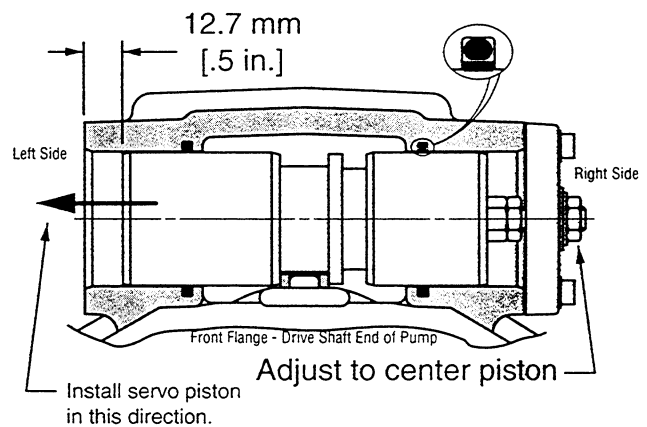

Figure 1-5
- 4** Screw the cover plate onto the servo piston assembly. Install new cover plate gasket in place on housing. Install servo piston assembly and cover plate into servo piston bore in right side of housing (as shown in figure 1-1 and figure 1-5). Retain cover plate with four each washers and cap screws. Torque cap
screws 4.5 to 5.4 N•m [40 to 48 lbf•in.]. To obtain neutral, centering the servo piston assembly is required. Measure in from the left side and set servo piston 12.7 mm [.5 in.] from surface of housing servo bore as shown in figure 1-5.